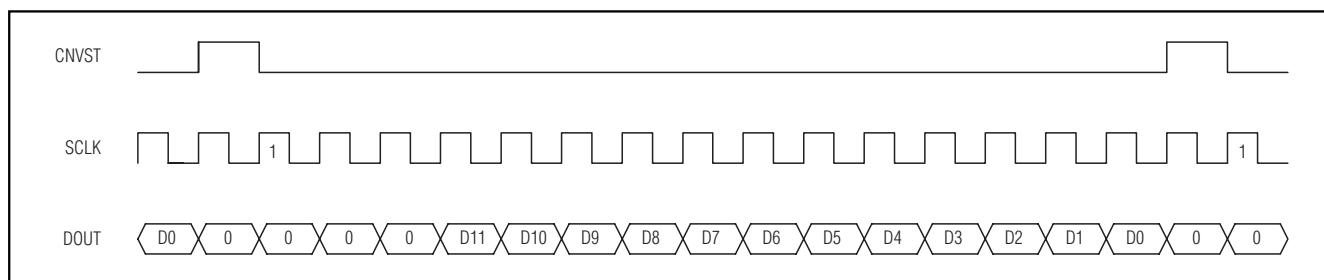
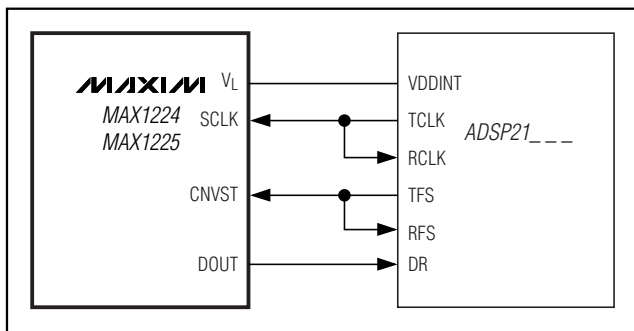

Figure 17. DSP Interface—Continuous Conversion
Figure 19. Interfacing to the ADSP21_...
The MAX1224/MAX1225 can also be connected to the TMS320C54_ by using the data transmit (DX) pin to drive CNVST and the CLKX generated internally to drive SCLK. A pullup resistor is required on the CNVST signal to keep it high when DX goes high impedance and 0001hex should be written to the DXR continuously for continuous conversions. The power-down mode may be entered by writing 00FFhex to the DXR (see Figures 17 and 18).
The MAX1224/MAX1225 can be directly connected to the ADSP21_ _ _ family of DSPs from Analog Devices, Inc. Figure 19 shows the direct connection of the MAX1224/MAX1225 to the ADSP21_ _ _. There are two modes of operation that can be programmed to interface with the MAX1224/MAX1225. For continuous conversions, idle CNVST low and pulse it high for one clock cycle during the LSB of the previous transmitted word. The ADSP21_ _ _ STCTL and SRCTL registers should be configured for early framing (LAFR = 0) and for an active-high frame (LTFS = 0, LRFS = 0) signal. In this mode, the data-independent frame-sync bit (DITFS = 1) can be selected to eliminate the need for writing to the transmit-data register more than once. For single conversions, idle CNVST high and pulse it low for the entire conversion. The ADSP21_ _ _ STCTL and SRCTL registers should be configured for late framing (LAFR = 1) and for an active-low frame (LTFS = 1, LRFS = 1) signal. This is also the best way to enter the power-down modes by setting the word length to 8 bits (SLEN = 1001). Connect the V_L pin to the ADSP21_ _ _ supply voltage when the MAX1224/MAX1225 are operating with a supply voltage higher than the DSP supply voltage (see Figures 17 and 18).